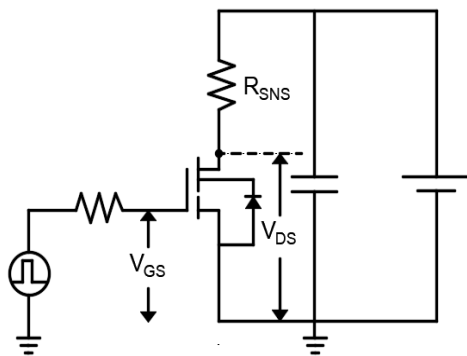

Figure 18. Dynamic $R_{DS(on)}$ Test Circuit
a. Dynamic on-resistance; see Figure 18